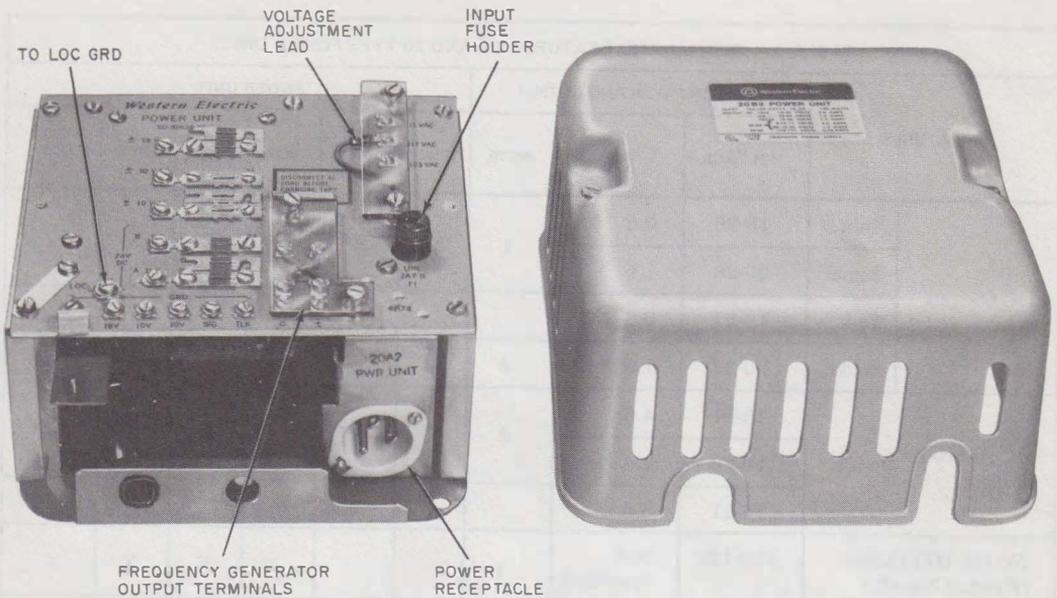

Fig. 3—20B2 Power Unit (Wall Mounted) Cover Removed
20B2—20A2 with hardware and cover for wall mounting (see Fig. 3)
2.03 The power units are equipped with a parallel blade ground receptacle. A 3-conductor power cord with male and female standard 3-prong plugs is available for connection to the input receptacle in the power unit (see Fig. 3 and 4). The cords are available in the following lengths and should be ordered separately:
4.03 Place wiring (supplying telephone equipment) through the plastic grommet at the bottom of the 20B2 unit (Fig. 3) and through the slot